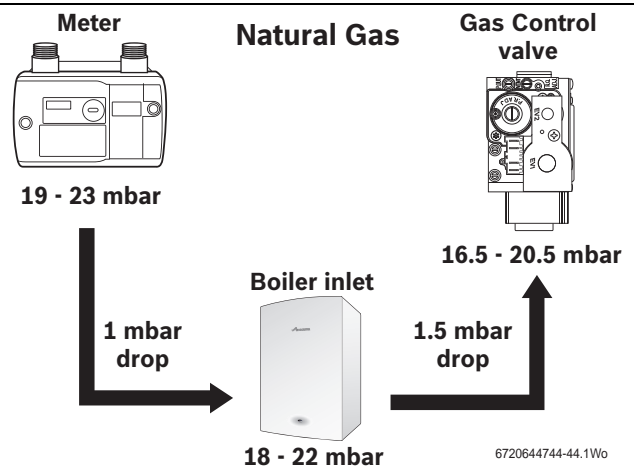
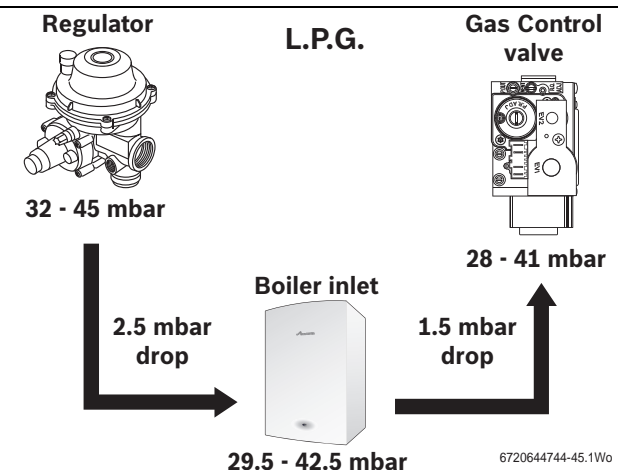

Fig. 62 Natural gas pressures
Fig. 63 L.P.G. pressures
- ▶ Slacken the screw in the inlet pressure test point (1) and connect a manometer.
- ▶ Check the gas supply working pressure at the gas valve conforms to values shown in Fig. 62 or Fig. 63.